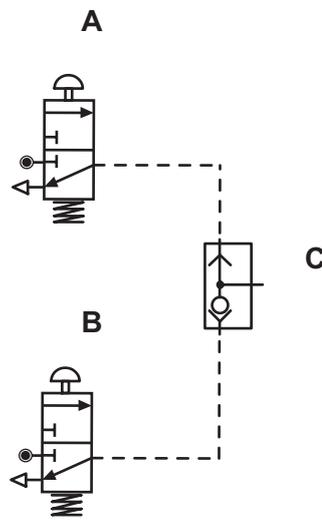

Fig. 1
- 1 (a) Fig.1 shows part of a pneumatic circuit.